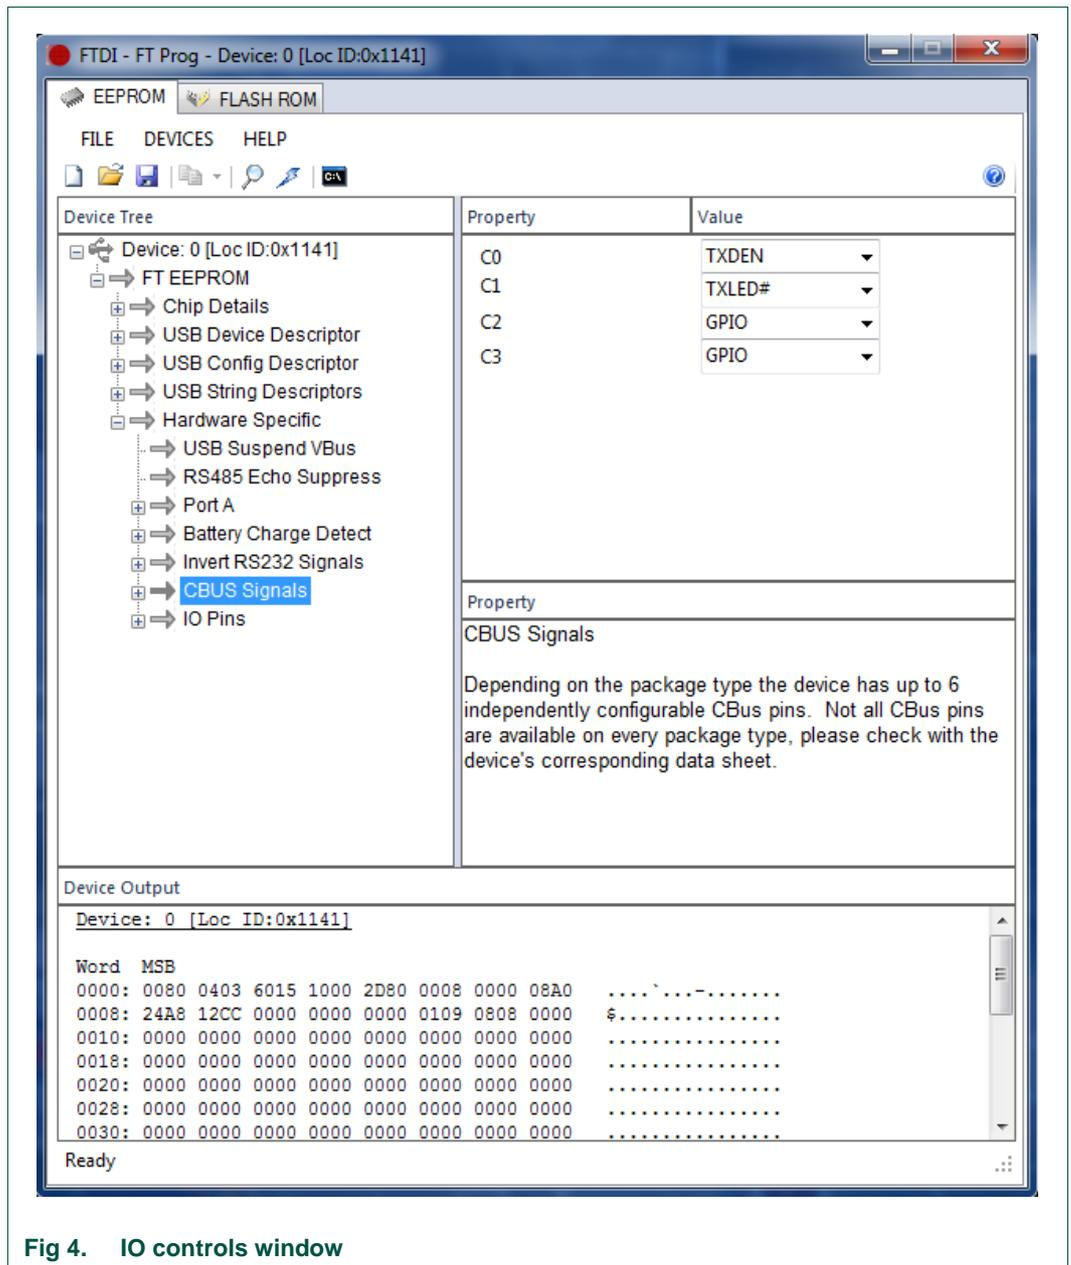

Fig 4. IO controls window
4. Update the IO controls C2 and C3 to GPIO – see Fig 4